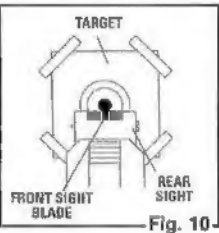

Fig. 10
- The air pistol is correctly aimed when the front sight blade is positioned exactly in the notch of the rear sight. The top of the front sight blade should be even with the top of the notch in the rear sight. The bullseye should appear to rest on the top of the front sight. (Fig. 10)